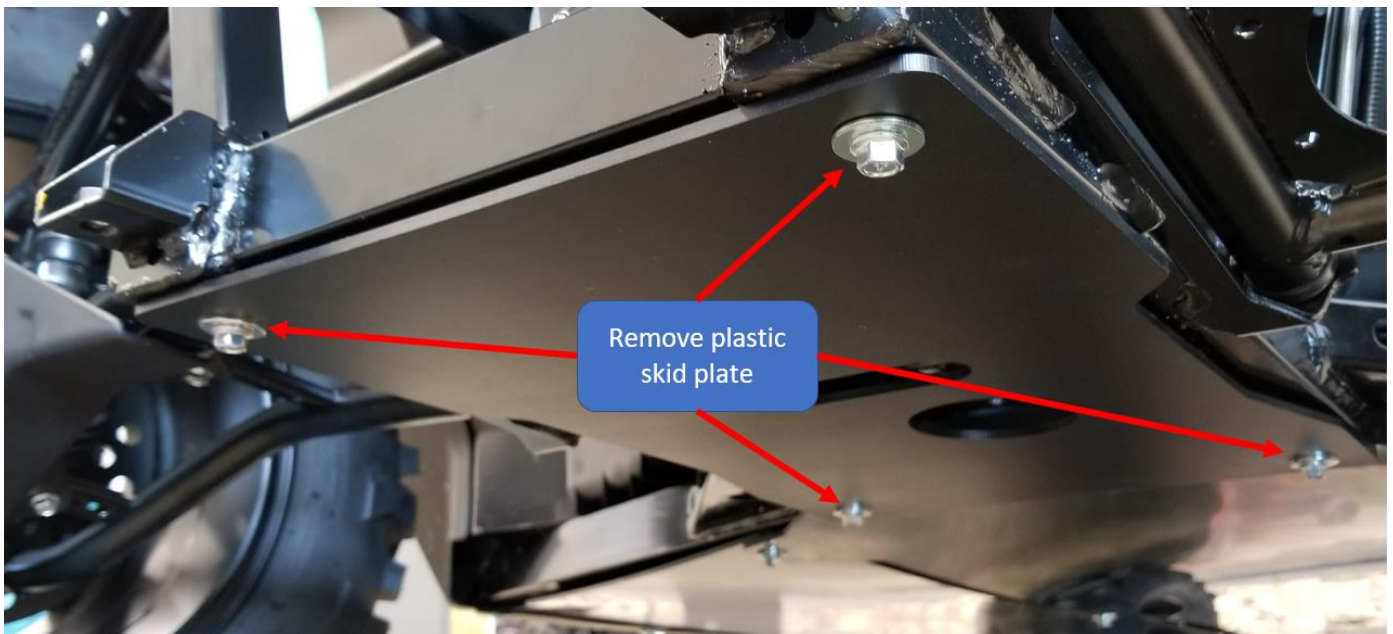

Figure 4
4. Remove the plastic skid plate as shown in **Figure 4**